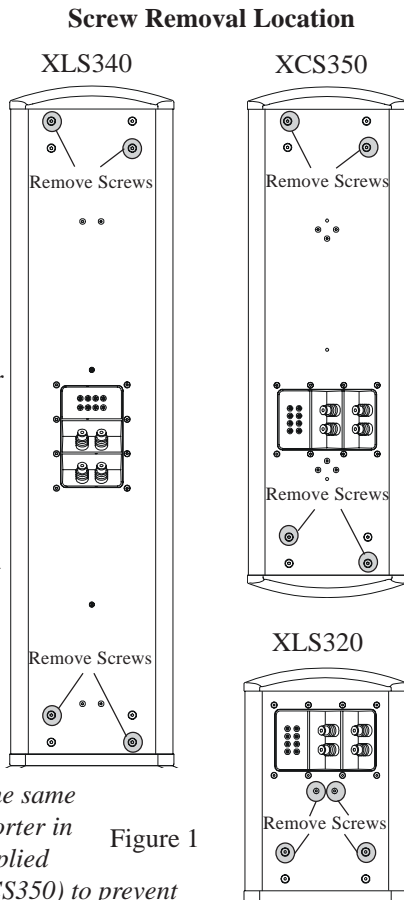

Figure 1
2. Using the supplied Allen Wrench, remove the screws at locations illustrated in figure 1.
- Attach the single bracket for the XLS320 to the rear of the Loudspeaker using the supplied machine screws. Refer to figures 1 and 10.
- Attach two brackets to the rear XLS340 and XCS350 Loudspeaker using the supplied machine screws. Refer to figures 1 and 11.